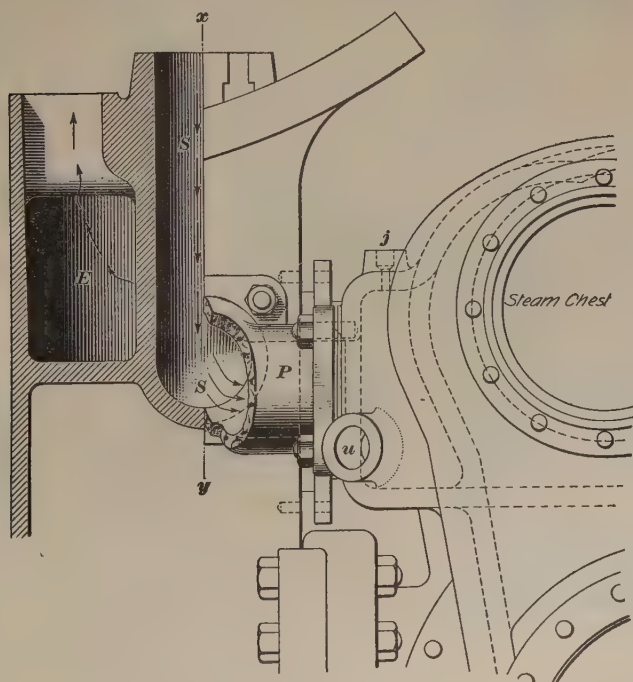

FIG. 16
The live-steam connection between the cylinder saddle and high-pressure valve chest is made by the pipe *P*, Figs. 16 and 17.
26. Steam Passages in Cylinder Saddle.—Fig. 16 is a front view and Fig. 17 a side view of a portion of the left half of the cylinder saddle. Fig. 16 is sectioned on the line